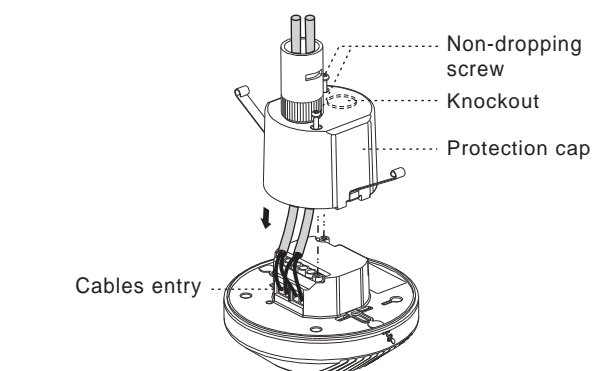

FIG.9
3.3.2.2 Open the knockout of protection cap with screwdriver if the user wants to use the two tubes, then fix the tubes and put the power cable through them (See FIG.9).